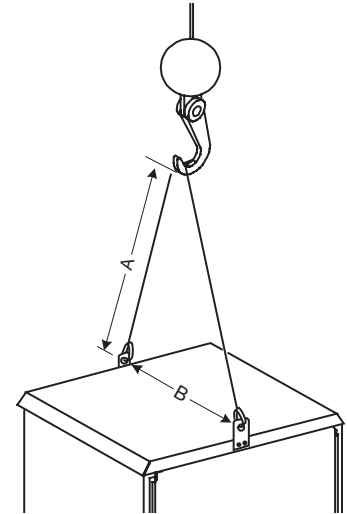

Fig. 2-1, Enclosure Lifting Arrangement
Secure the lifting straps/cable to the lifting ears. The length of the cable/strap between the lifting ears and the hook (A) is at least twice the distance (B) between the lifting ears (see Fig. 2-1).